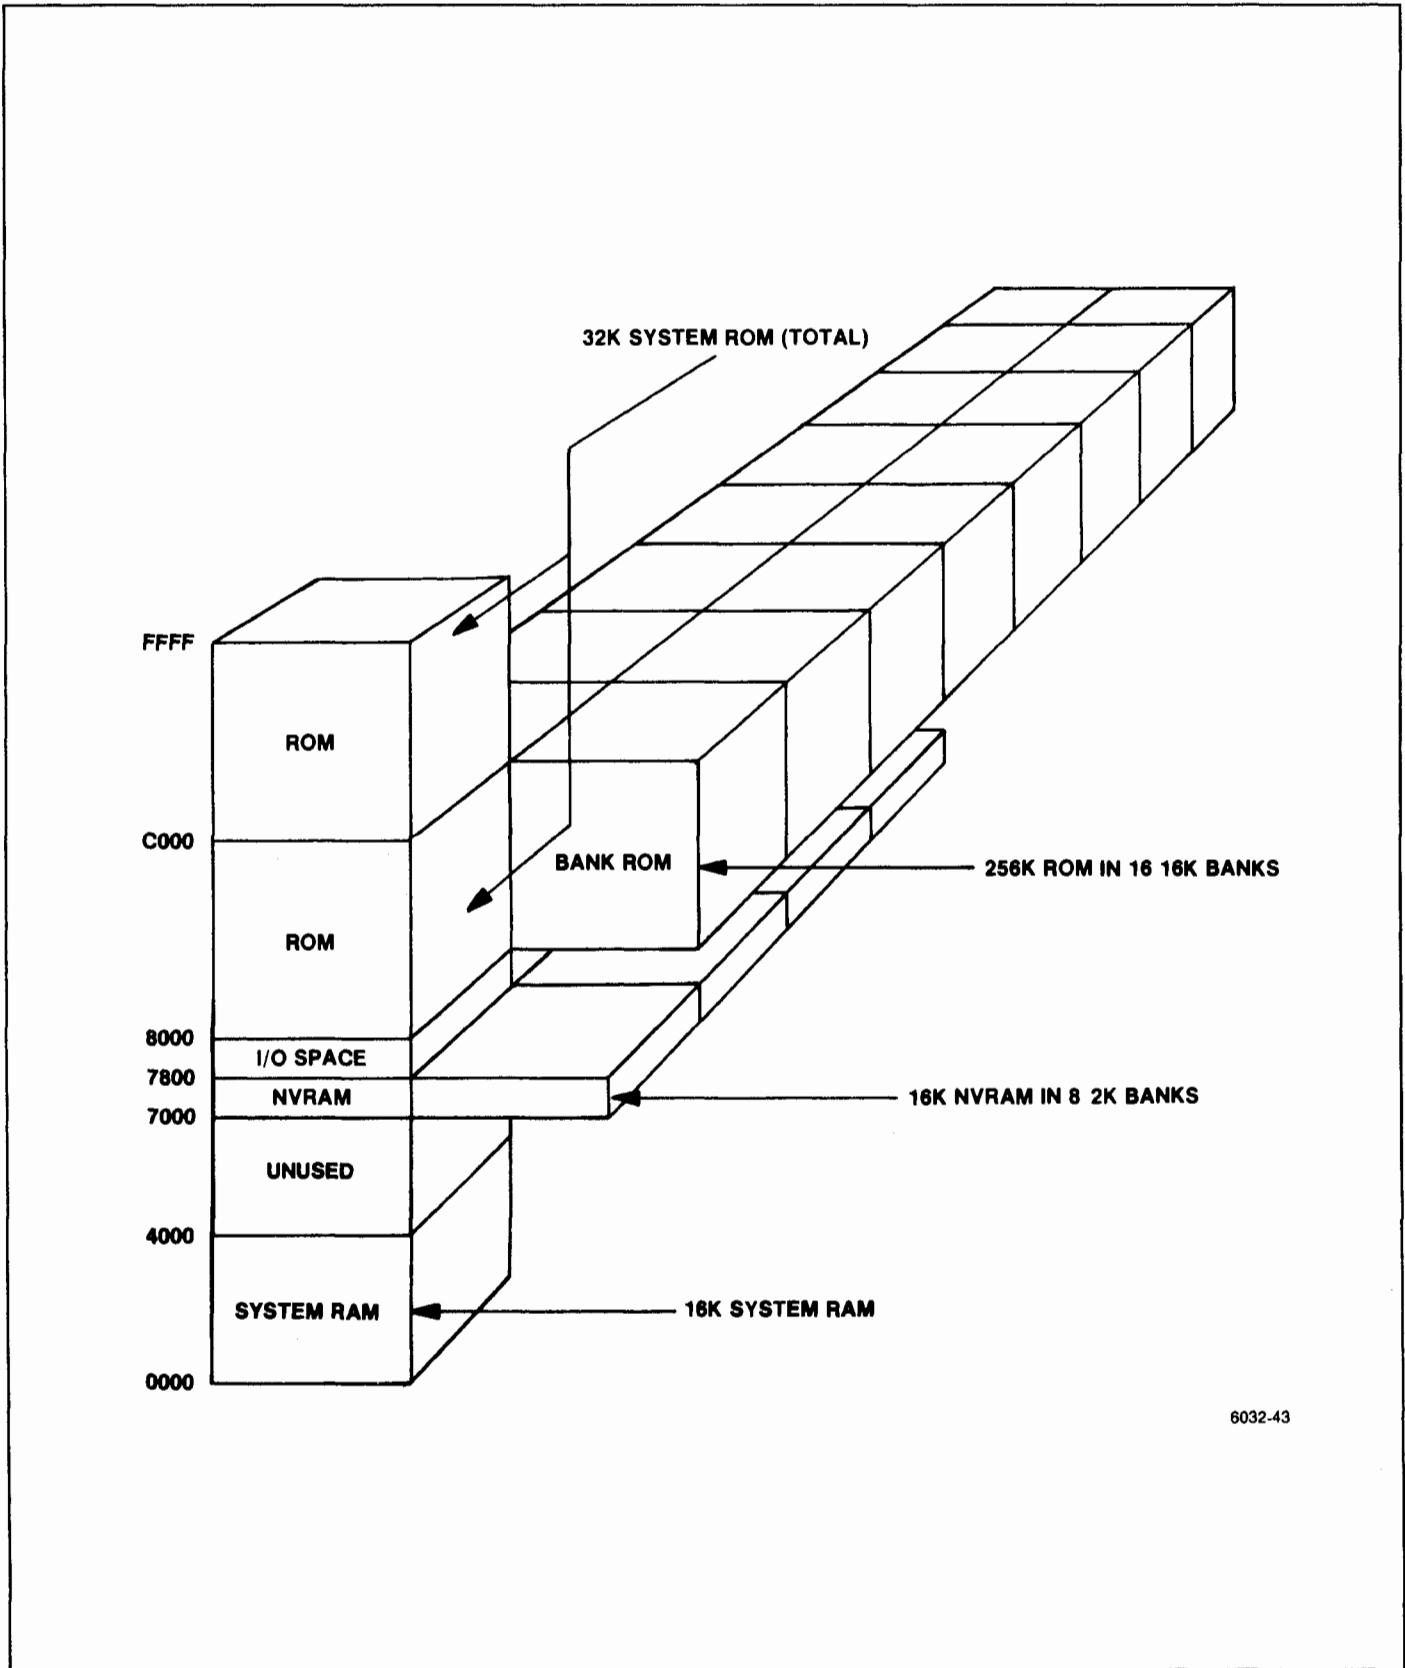
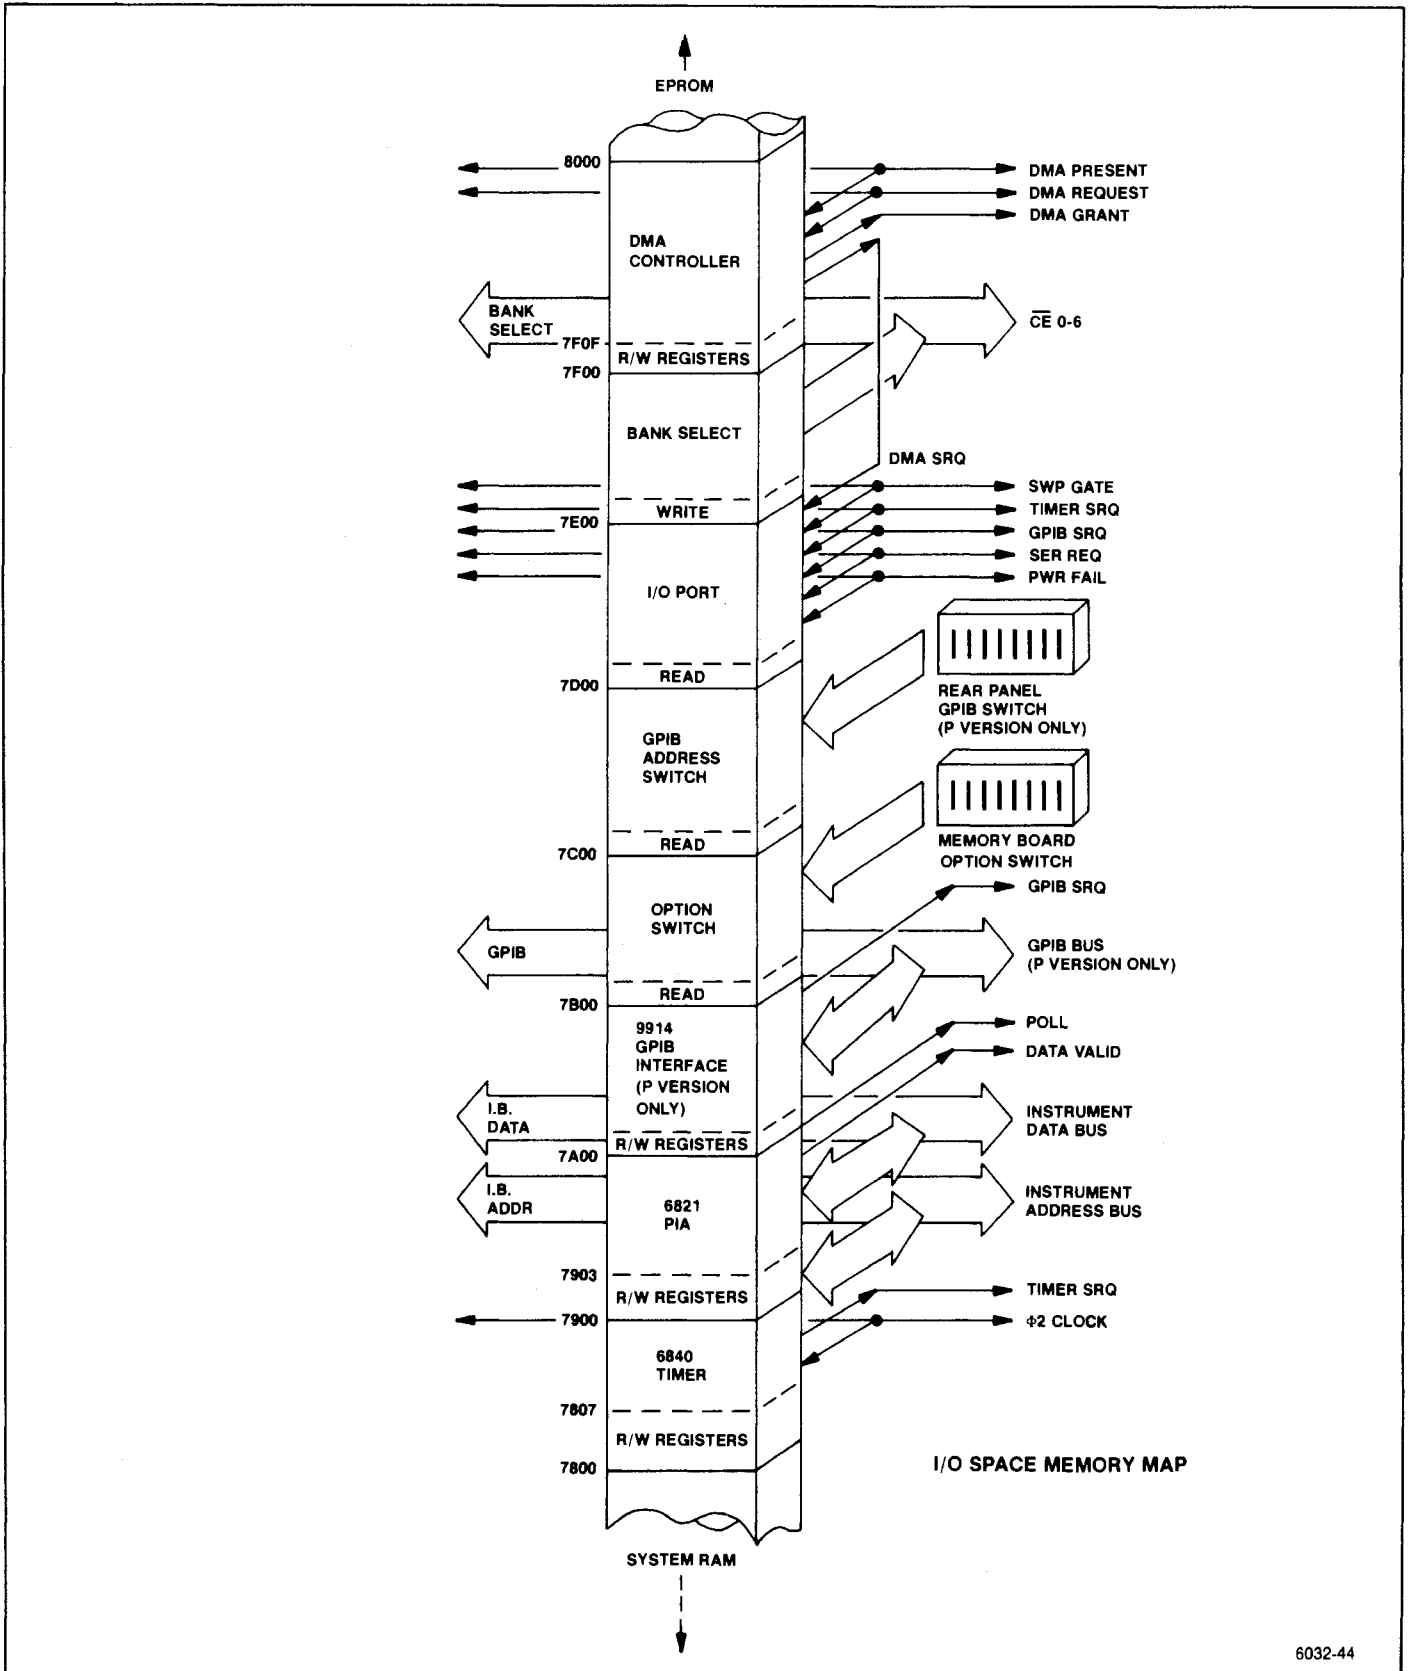
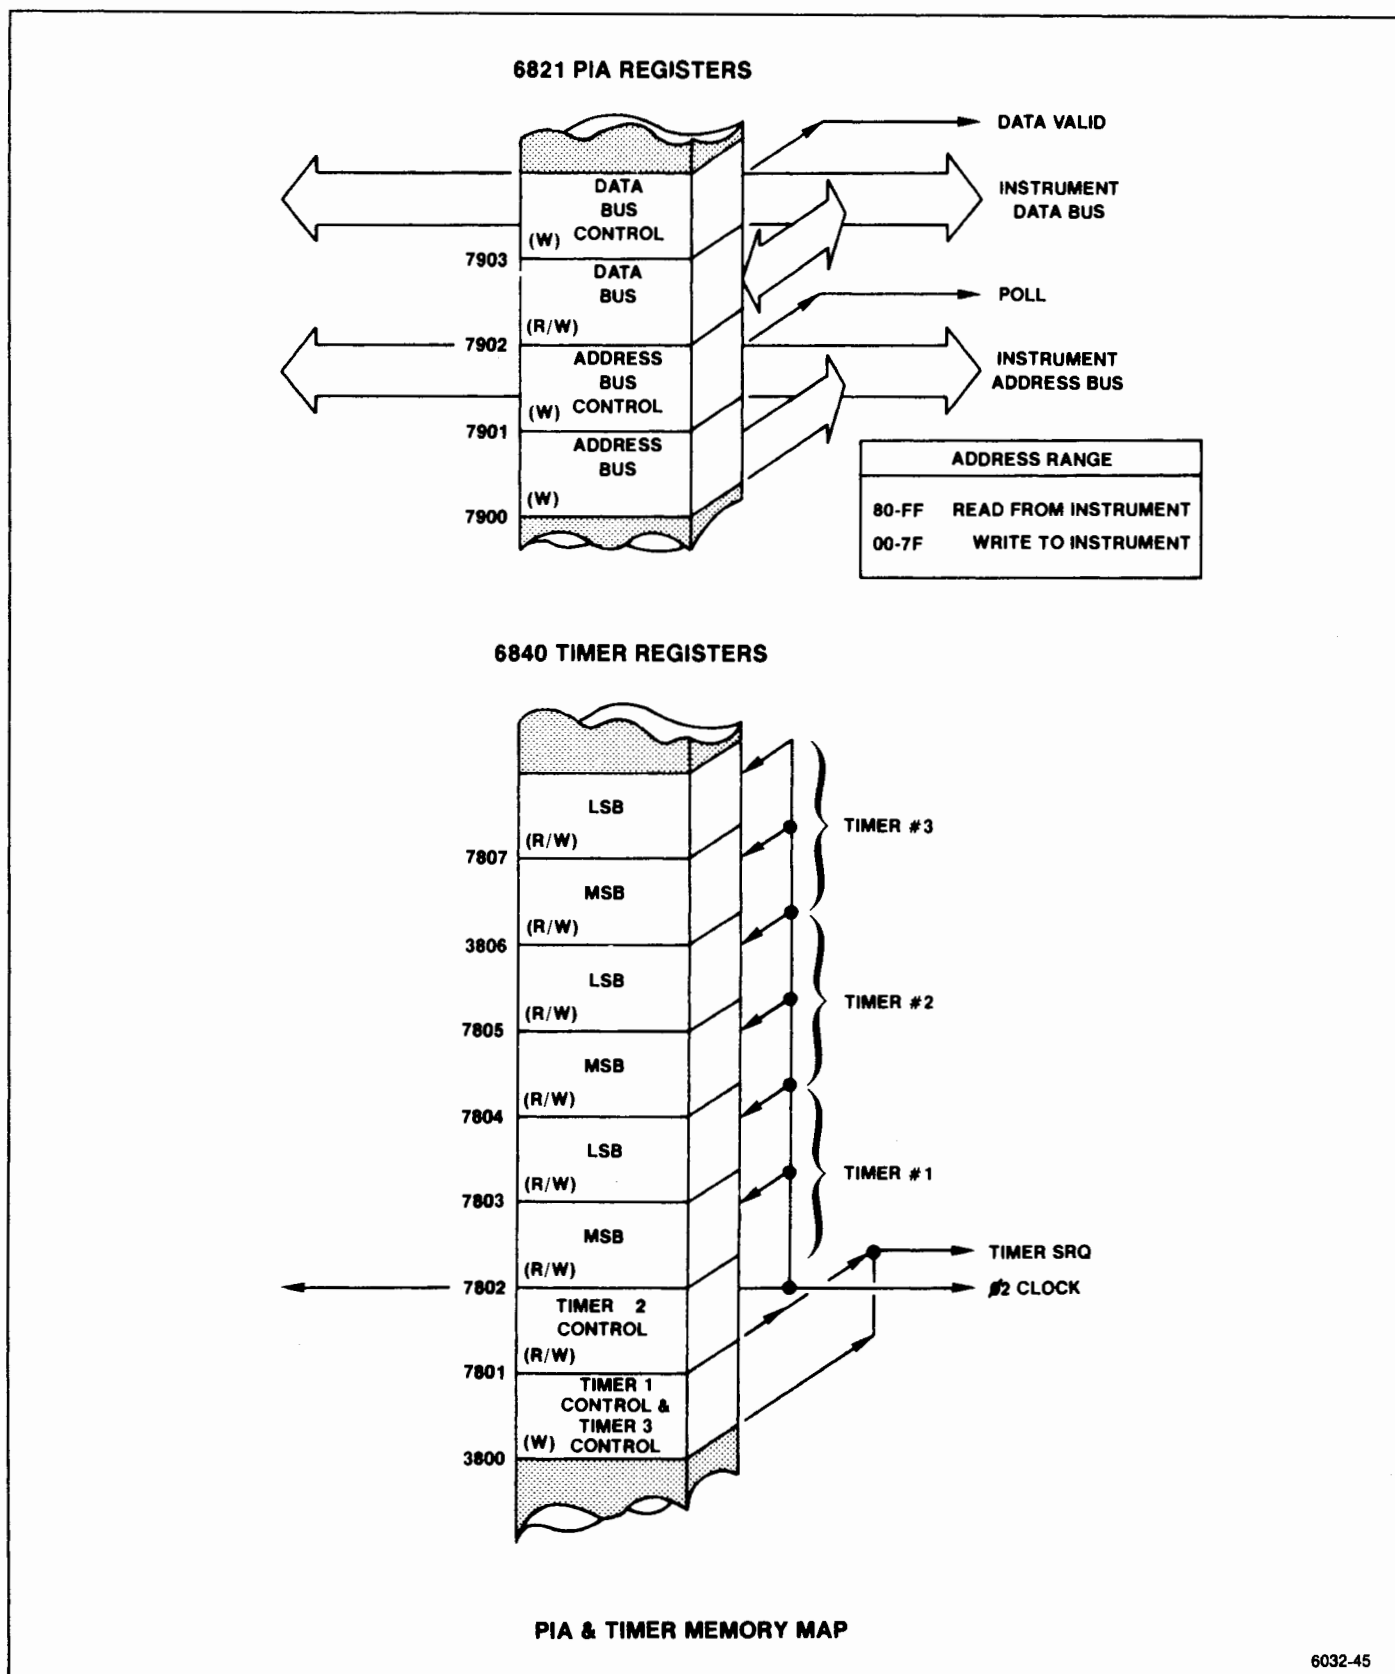

Figure 7-30. System memory map.
Figure 7-31. I/O address space.
Figure 7-32. PIA and Timer address map.
The accompanying illustrations show the address allocations for the microcomputer. These will be useful for the following descriptions. Figure 7-30 shows the entire address range of the processor. Figure 7-31 shows the I/O address range. Figure 7-32 shows PIA and Timer memory maps. Unless otherwise noted, all addresses are in hexadecimal.
**Address Decoder.** AU3035 decodes the addresses for the I/O circuits on this board. When the microprocessor selects an address in the range of 7800-7FFF, the I/O line from the Memory board (A54) goes low, enabling U3035. The decoder then subdivides the address range to select each circuit. Figure 7-31 shows the I/O address map. Each circuit uses only one or a few addresses within its range.
**Timer.** The Timer circuit, U2015, is a 6840 programmable timer used by the microprocessor to generate variable time delays. The processor programs an interval into the timer. When the interval passes, the Timer generates an interrupt (Timer SRQ). The  $\phi 2$  Clock synchronizes the Timer with the microprocessor. An address in the timer range selects the Timer. Address bits A0-A2 select internal Timer registers, counters, and latches. When the Read/Write (R/W) line is low, the Timer accepts data input from the data bus. When the line is high, the Timer puts its data on the data bus. See a 6840 data sheet for additional details. The Timer addressing is mapped in Figure 7-32.